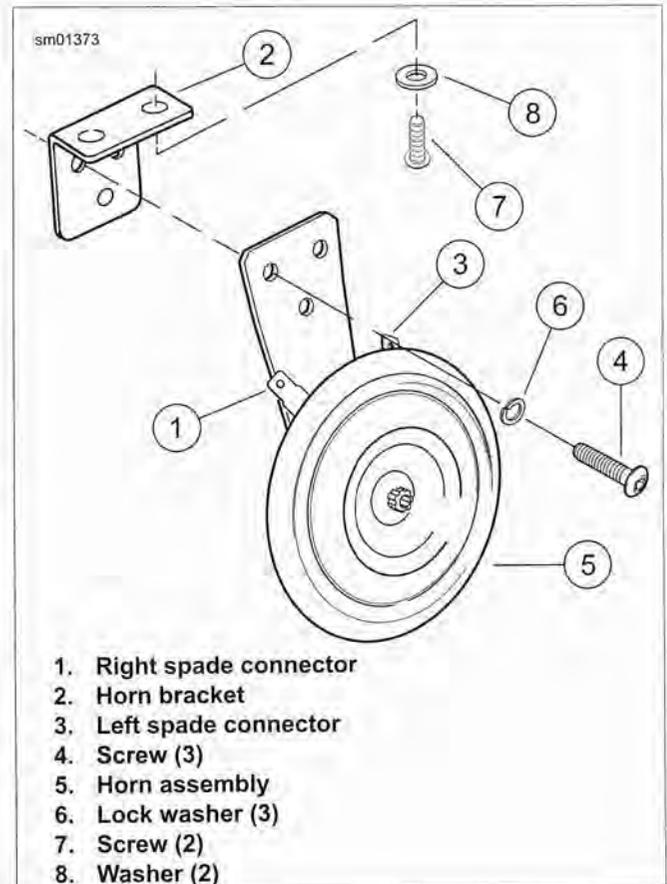

Figure 6-133. Horn Components
1. See Figure 6-133. Remove terminal clips from horn spade connectors (1, 3).
2. Remove screws (4) and lock washers (6) from horn bracket (2) and remove horn assembly (5).
4. Install the yellow wire with black tracer to the left spade connector (3) and the black wire to the right spade connector (1).